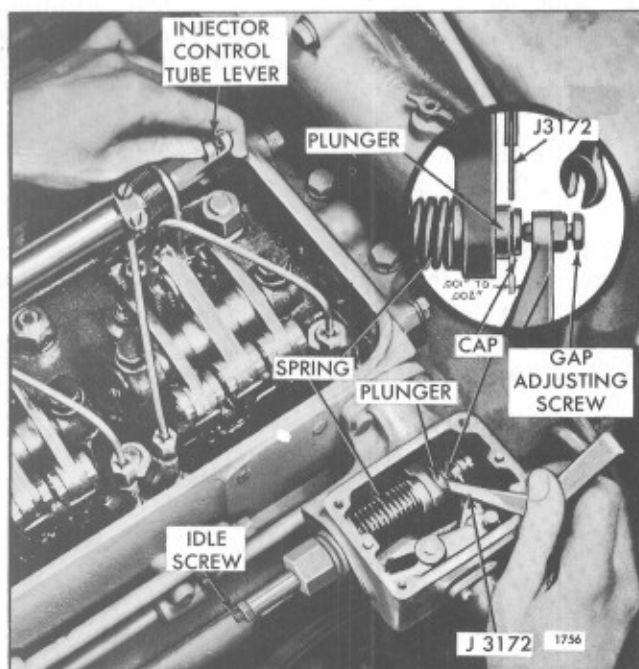

Fig. 1 - Adjusting Governor Gap
desired engine idle speed (Fig. 1). Hold the screw and tighten the lock nut to hold the adjustment.
7. Check the gap between the low-speed spring cap and the high-speed spring plunger with a .0015 " feeler gage J 3172 as shown in Fig. 1. If the gap setting is incorrect, reset the gap adjusting screw.
2. Turn the idle speed adjusting screw until 1/2 " of the threads (12-14 threads) project from the lock nut, when the nut is against the high-speed plunger (Fig. 1).